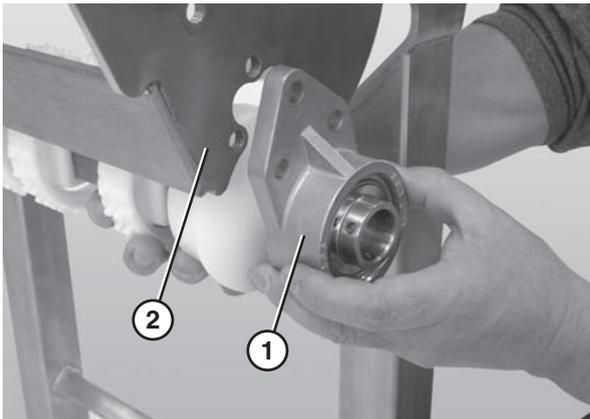

Figure 66
- Disconnect the 3 hole flange bearing (Figure 66, item 1) from the nose bar drive weldment (Figure 66, item 2).